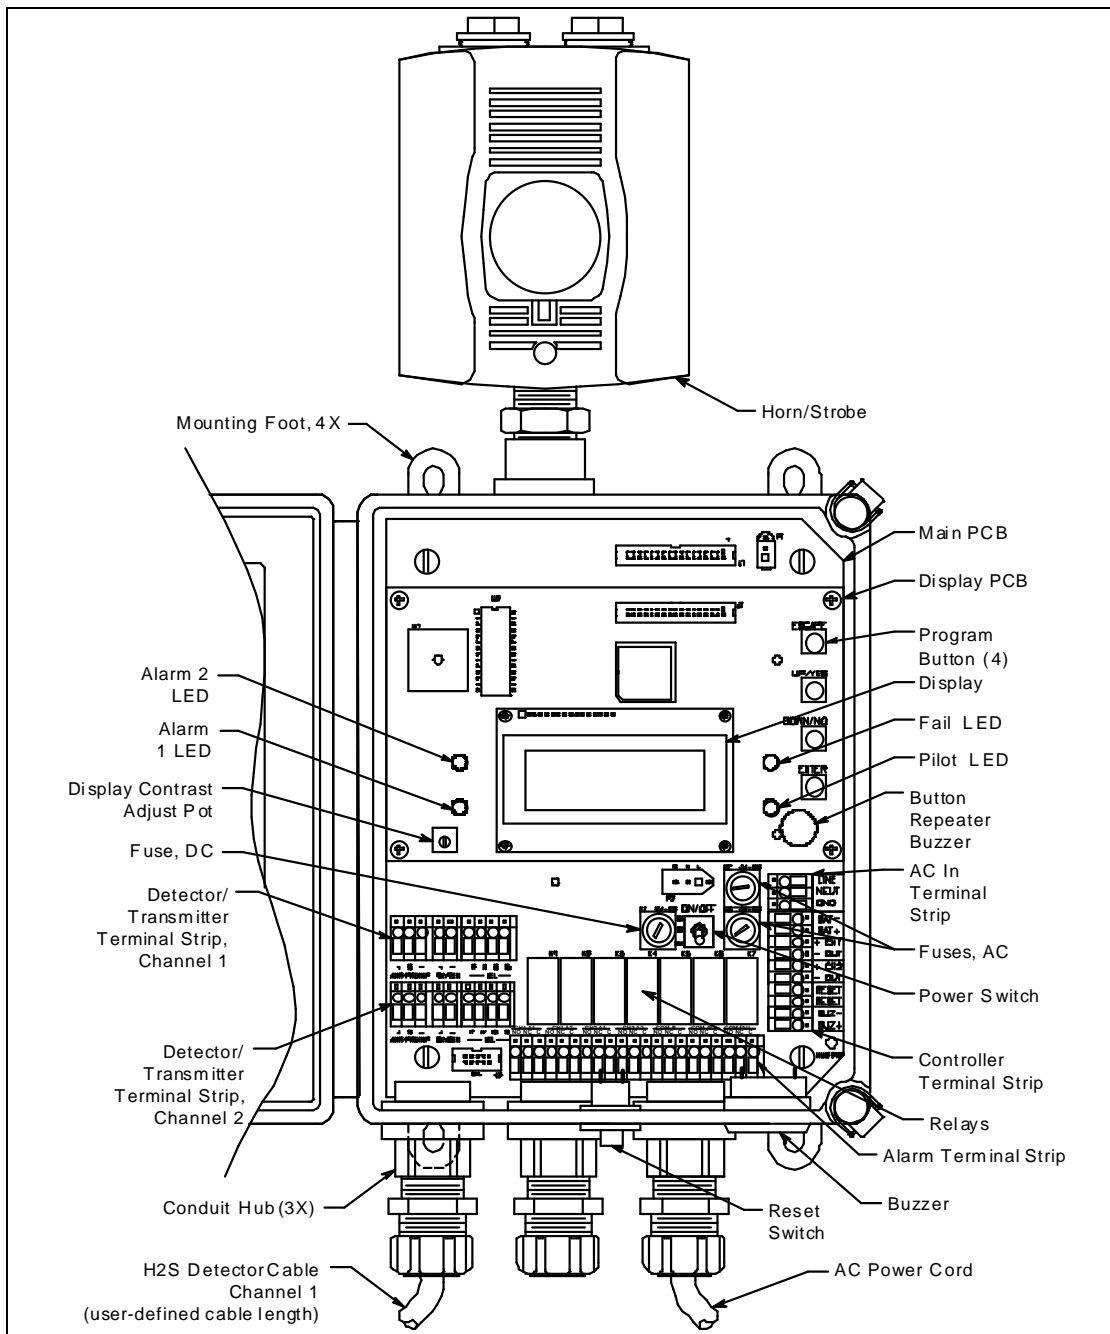

Figure 1. Beacon 200 Component Location
This section describes the internal components of the Beacon 200. See Figure 1 on page 9 for a view of the internal components.
- **Detector/Transmitter Terminal Strips.** Two detector/transmitter terminal strips are located near the bottom left corner of the main circuit board (see Figure 1). These two 9-point terminal strips facilitate wiring connections to the detectors. Only one detector head at a time may be wired per channel. The top terminal strip is for channel 1 and the bottom terminal strip is for channel 2. The H₂S detector is factory wired to the top terminal strip.
- **Alarm Terminal Strip.** The alarm terminal strip is located along the bottom edge of the main circuit board (see Figure 1). This 21-point terminal strips facilitates wiring connections to external alarm devices (horn, strobe, etc.). Terminals are provided for individual channels as well as common alarm relay contacts. The horn/strobe is factory wired to this terminal strip.
- **Controller Terminal Strip.** The 10-point controller terminal strip is near the lower right edge of the main circuit board (see Figure 1). The controller terminal strip facilitates various internal and external wiring connections. Table 3 lists the function of each terminal.
- **AC In Terminal Strip.** The AC In terminal strip is a 3-point terminal strip located above the controller terminal strip (see Figure 1). It facilitates wiring from the AC power source. The 8 foot AC power cord is factory wired to this terminal strip. Table 4 lists the function of each terminal.
- **Channel relays.** The four channel relays are above the alarm terminal strip (see Figure 1). These relays are dedicated to specific channels and alarm levels.
- **Common relays.** The three common relays, alarm 1, alarm 2, and fail, are to the left of the controller terminal strip (see Figure 1). These relays are common for both channels.
The power switch is located above the relays and to the left of the DC fuses (see Figure 1). The power switch turns the incoming AC power source on and off at the Beacon 200. When the switch is up, the power switch is on.